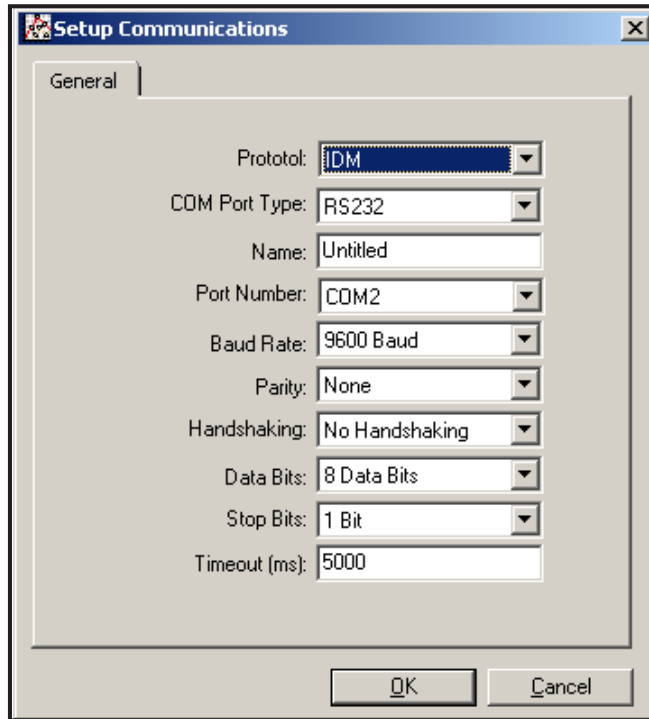

Figure 33: Setup Communications Screen
- Click on the *Communications Port* option to select it. The *Setup Communications* screen appears similar to Figure 33.